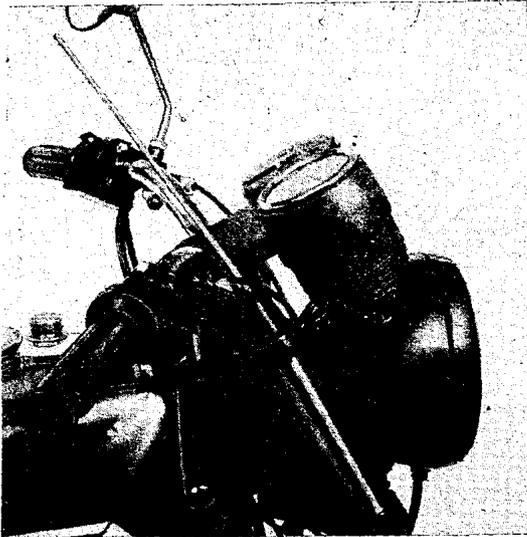

Fig. 114. Oil level checking
3. When the fork members lose oil (radial seal rings in the sliding tube are leaky). Oil level checking: see Fig. 114.
The correct oil level is checked in the mounted condition of the telescopic fork according to Fig. 114.